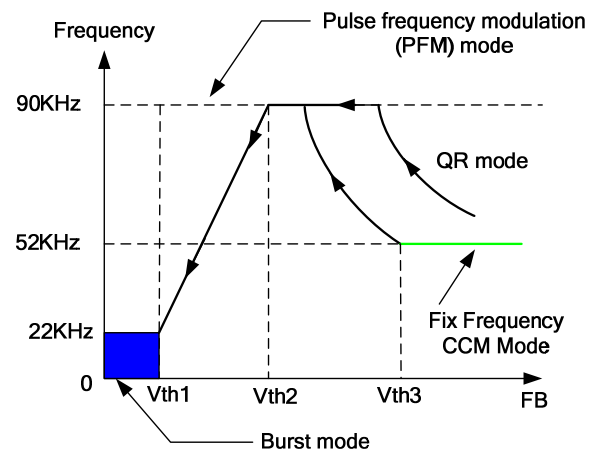

Figure 1
■ At full load conditions ($V_{FB} > V_{th3}$, Figure 1), there are two situations: firstly, if the system input is in low line input range, the IC operates in fix frequency (52KHz @ $R_{I}=20K \text{ Ohm}$) CCM mode. Thus, small size transformer can be used with high power conversion efficiency. Secondly, if the system input is in high line input range, the IC operates in QR mode. In this way, high power conversion efficiency can be achieved in the universal input range when system is at full loading conditions.
■ At normal operating conditions ($V_{th2} < V_{FB} < V_{th3}$, Figure 1), the system operates in QR mode. The frequency varies depending on the line voltage and the load conditions. Therefore, the system may actually work in DCM when 90KHz frequency clamping is reached.
■ At light load conditions ($V_{th1} < V_{FB} < V_{th2}$, Figure 1), the system operates in PFM (pulse frequency